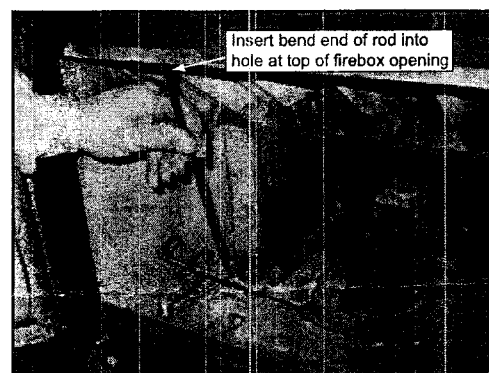

Figure 15
2. Insert the bend end of the new rod into the guide hole at the top of the firebox opening. It can stay suspended there while placing the wire loops over the heat exchanger tubes. **Figure 15.**